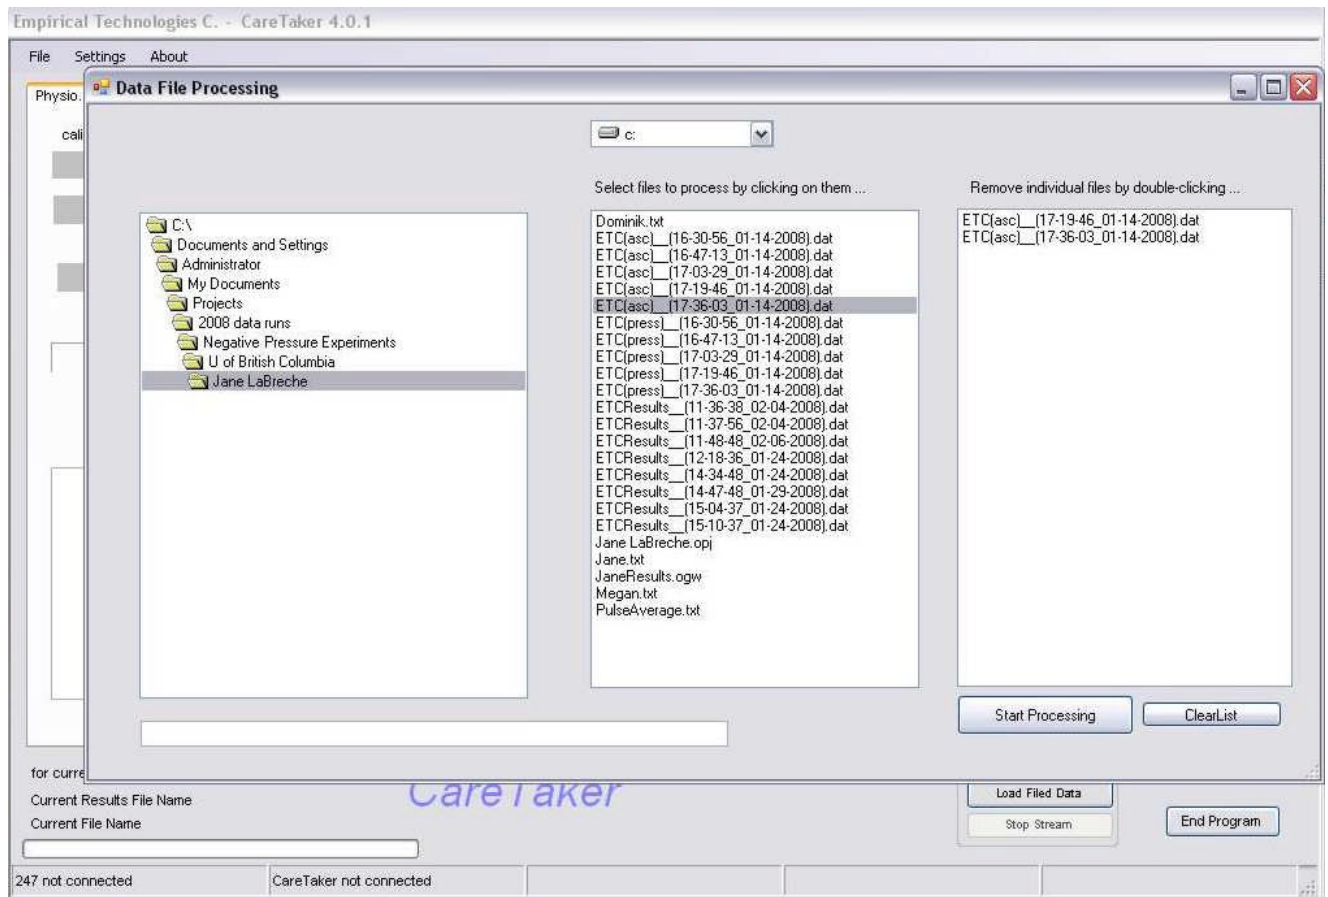

Figure 24 Screen for selecting files for processing.
In order to access the analysis panels click on File - Data Processing. The screen presented in Figure 24 opens.
3. All results will be compiled in a single ETCResults file. *This file will be saved in the same directory that was selected under File – Save Data to...* The filename of this result file is displayed on the main GUI (bottom left corner in Figure 24), next to “Current Results File Name”.
- c. Cancel – return to the file selection screen (Figure 24).